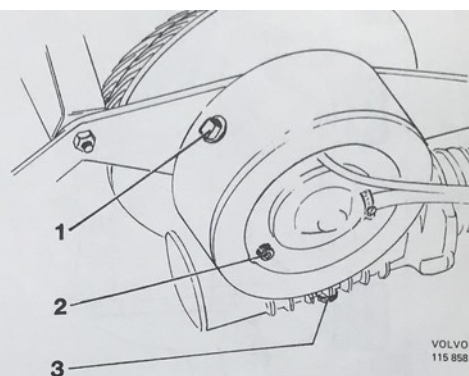

Fig. 92-37. Worm gear plugs
5. Drain the oil from the winch gear housing by removing the drain plug (3), see Fig. 92-37.